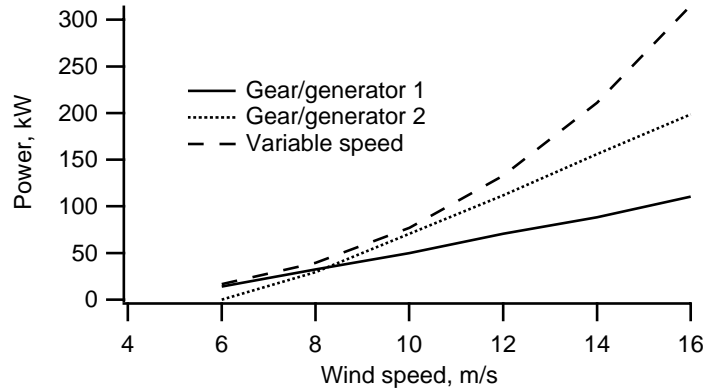

Figure 6.45 Power curves
p. 316 The corrected Figure 6.45 follows: